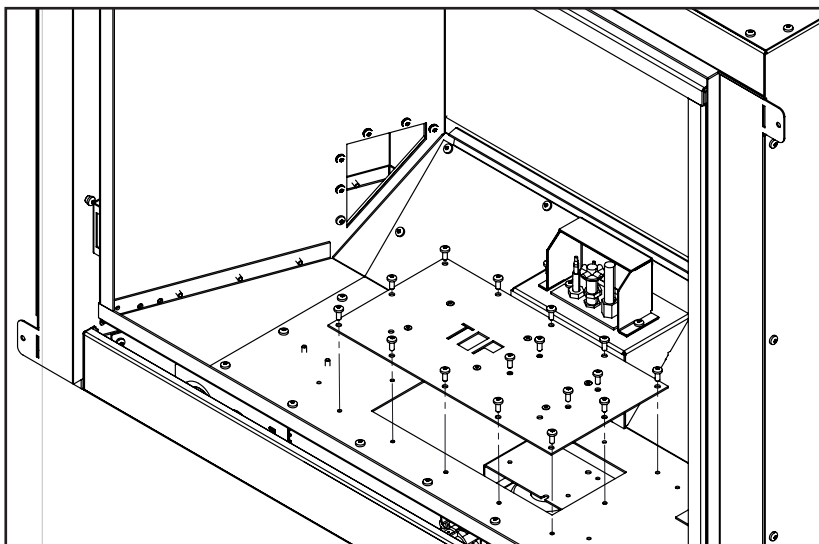

Figure 11. Removing Access Door
**Step 2:** Remove the Upper Air Diverter by removing (2) T-20 bolts. Remove the Lower Air Diverter.
**Step 3:** Remove the right and left burner stands by removing (4) T-20 bolts.
**Step 4:** Remove the (16) T-20 bolts retaining the access door as shown in Figure 11.